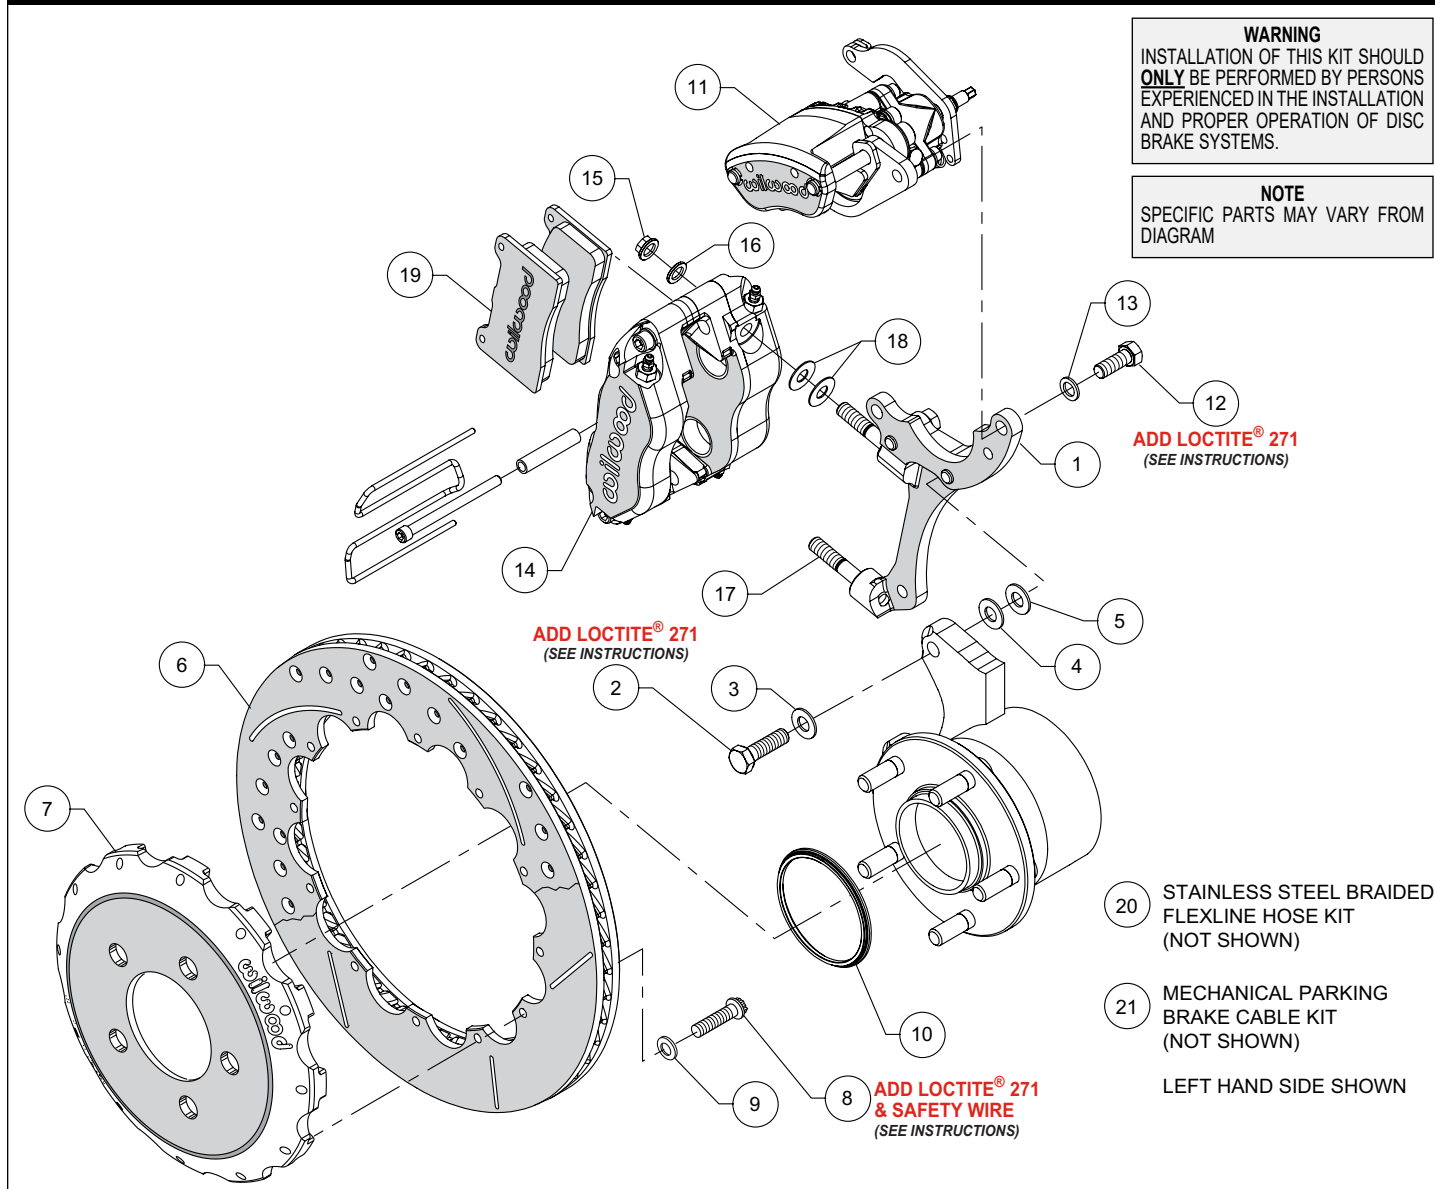
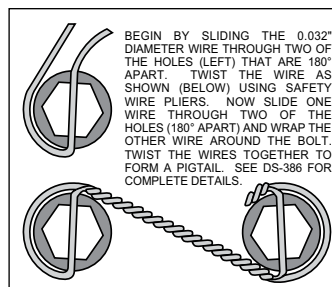

Figure 1. Typical Installation Configuration
Figure 4. Safety Wire Diagram
Assembly Instructions (numbers in parenthesis refer to the parts list and Figure 1 on the preceding pages):
- The caliper mount bracket (1) should initially be installed with clean, dry threads on the mounting bolts. Orient the bracket as shown in Figure 1, and Photo 1, and install using bolts (2) and washers (3). Initially place one .030" thick shim (4) on each bolt between the bracket and upright, Figure 1. Temporarily tighten the mounting bolts. **NOTE:** *The bracket must fit squarely against the mount bosses on the upright.* Inspect for interference from casting irregularities, machining ridges, burrs, etc. Later, after the caliper alignment has been checked, the mount bolts will be secured using red *Loctite*® 271.
- Orient the rotor (6) and the hat (7) as shown in Figure 1 and Photo 2. Attach rotor to hat using bolts (8) and washers (9). Apply red *Loctite*® 271 to the bolt threads and torque to 155 **in-lbs** using a criss-cross pattern. For an added measure of security, the bolts may be safety wired using standard 0.032 inch diameter stainless steel safety wire as shown in Figure 4. Please refer to Wilwood's data sheet DS-386 (available at www.wilwood.com/Pdf/DataSheets/ds386.pdf) for complete safety wire installation instructions.
- Slide the rotor registration adapter (10) onto the axle register on the hub assembly with the smaller O.D. facing outward, Photo 3. Slide the hat/rotor assembly (6/7) onto the axle hub. **NOTE:** *The hat must fit flush against the axle hub flange or excessive rotor run out may result.* Install three lug nuts (finger tight) to keep the hat/rotor assembly in place while continuing with the installation, Photo 4.
- Initially place two .035" thick shims (18) on each stud as shown in Figure 1 and Photo 5. Mount the caliper (14) onto the bracket (1) using lock nuts (15) and washers (16), Figure 1 and Photo 6. Temporarily tighten the lock nuts and view the rotor through the top opening of the caliper. The rotor should be centered in the caliper, Photo 7. If not, adjust by adding or subtracting shims (4 and/or 5) between the bracket and the mounting bosses. Always use the same amount of shims on each of the two mounting bolts. Once the caliper alignment is correct, remove the bracket mounting bolts (2) one at a time, apply red *Loctite*® 271 to the threads, and torque to 35 ft-lb.
- Insert the brake pads (19) into the caliper with the friction material facing the rotor (6), as shown in Figure 1 and Photo 8. Check that the top of the brake pad is flush with the outside diameter of the rotor, Photo 9. If not, adjust by adding or subtracting
- Mount the parking brake caliper (11) onto the top section of the caliper mounting bracket (1) using bolts (12) and washers (13), as shown in Figure 1 and Photo 6. Apply red *Loctite*® 271 to bolt threads, and torque to 30 ft-lb.
- **NOTE:** OEM rubber brake hoses generally cannot be adapted to Wilwood calipers. The caliper inlet fitting is a 1/8-27 NPT. Install Wilwood's stainless steel braided flexline hose kit (20), P/N 220-15043 included with this kit. Connect one end to the caliper (use PTFE tape on pipe threads of adapter fitting for proper sealing to caliper) and the other to the OEM hard line at the bracket as shown in Photo 10. **Carefully route hoses to prevent contact with moving suspension, brake or wheel components.**